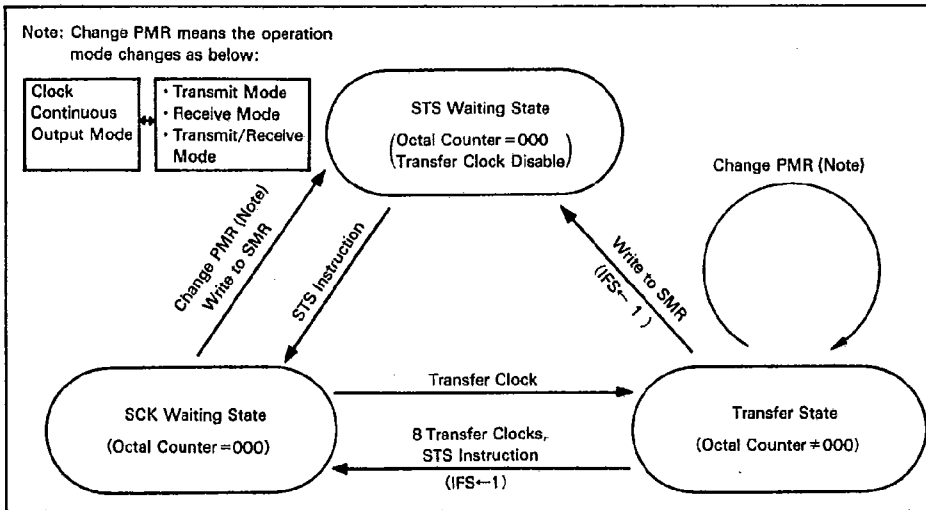

Figure 11. Serial Interface Operation State
**Operating State of Serial Interface:** The serial interface has three operating states, the STS waiting state, SCK waiting state, and transfer state, as shown in figure 11.